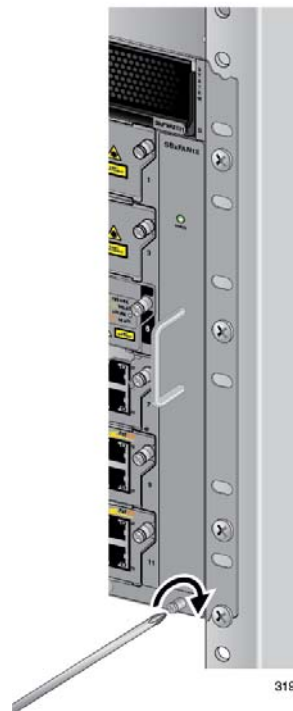

Figure 167. Tightening the Screw on the AT-SBxFAN12 Fan Module
3. With a #2 Phillips-head screwdriver, tighten the screw at the base of the module to secure the module to the chassis. Refer to Figure 167.